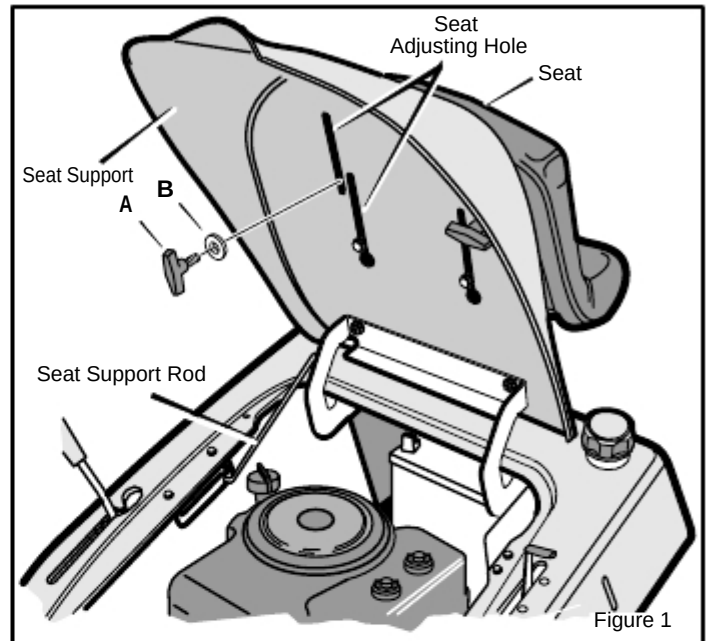

Figure 1
3. Align the holes in the **seat** to the holes in the **seat support** (Figure 1). Fasten the **seat** to the **seat support** with the fasteners as shown.
4. Check the operating position of the **seat**. If the **seat** needs to be adjusted, loosen the two **wing bolts (A)**. Slide the **seat** forward or backward along the **seat adjusting holes** as shown. Tighten the **wing bolts (A)**.